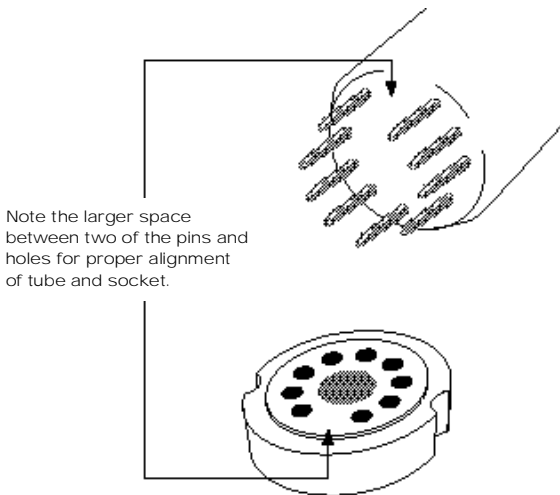

FIGURE 3
3. Noting the location of the tube sockets in the top view photo, inspect the tubes for corresponding labels and markings. Once locations are mapped, take a tube and inspect the pins, noting the larger space between two of the pins (see Figure 3). This space will match with the socket. Insert each tube into the appropriate tube socket, making sure all pins and pin holes are aligned. Do not force the tubes into the sockets. "Rock" the tubes gently while pushing slowly until each tube is firmly seated.